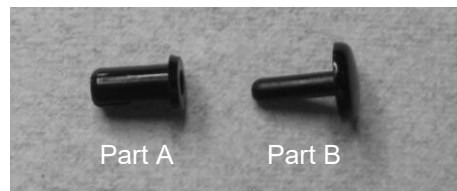

Figure 8
17. The card reader adapter board and cable assembly needs to be attached to the inside of the card cage using a plastic Snap Rivet (P/N 330801-03). The rivet components are shown in Figure 8.